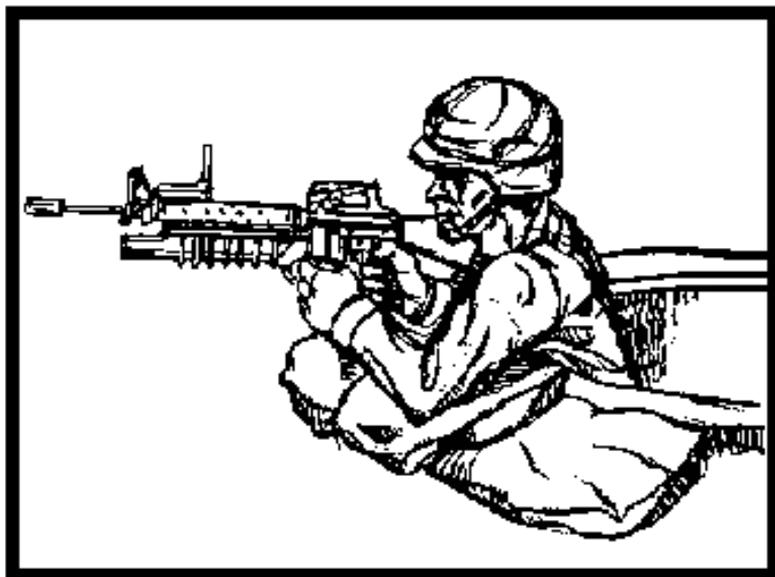

Figure 5-7. Fighting position, supported.
(7) ***Fighting position.*** If you fire from a fighting position, try to use support (Figure 5-7).